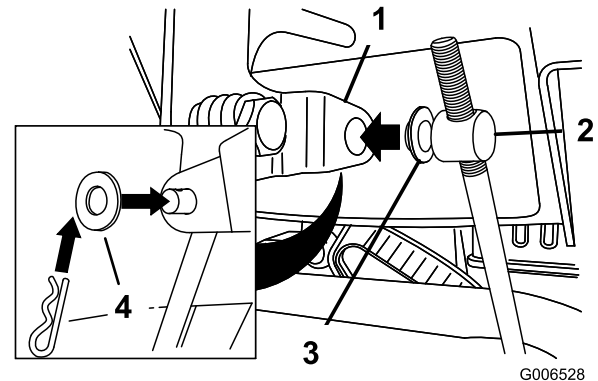

Figure 6
3. Remove the hairpin cotter and the outer washer from the trunnion on the upper end of the speed control rod (Figure 6).
**Note:** To make installation easier, leave the flat washer on the trunnion (Figure 6).
- Lift up on the speed control rod and insert the trunnion into the hole in the speed selector lever (Figure 6).
- B. Disconnect the trunnion from the speed selector lever (Figure 6).
- C. Turn the trunnion downward (clockwise) on the speed control rod (Figure 6).
- D. Connect the trunnion to the speed selector lever (Figure 6).
- C. Turn the trunnion upward (counterclockwise) on the speed control rod (Figure 6).